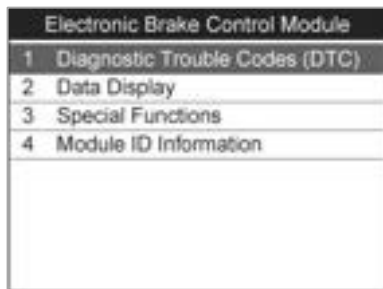

Figure 9.13
- 1) From the diagnostic function menu (Figure 9.13) use the **UP/DOWN** scroll button to select **Diagnostic Trouble Codes** and press the **OK** button.
- 1) From the diagnostic function menu (Figure 9.13) use the **UP/DOWN** scroll button to select **Data Display** and press the **OK** button.
- 1) From the diagnostic function menu (Figure 9.13) use the **UP/DOWN** scroll button to select **Special Functions** and press the **OK** button.
- 1) From the diagnostic function menu (*Figure 9.13*) use the **UP/DOWN** scroll button to select **Module ID Information** and press the **OK** button.